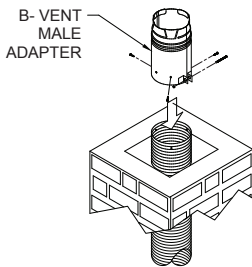

Figure 15
the Cap if needed (**Figures 15 & 16**).
Step 2. Attach the male B-Vent Flex Adaptor to the flex with the locking lug and four sheet metal screws, as shown in **Figure 15**.